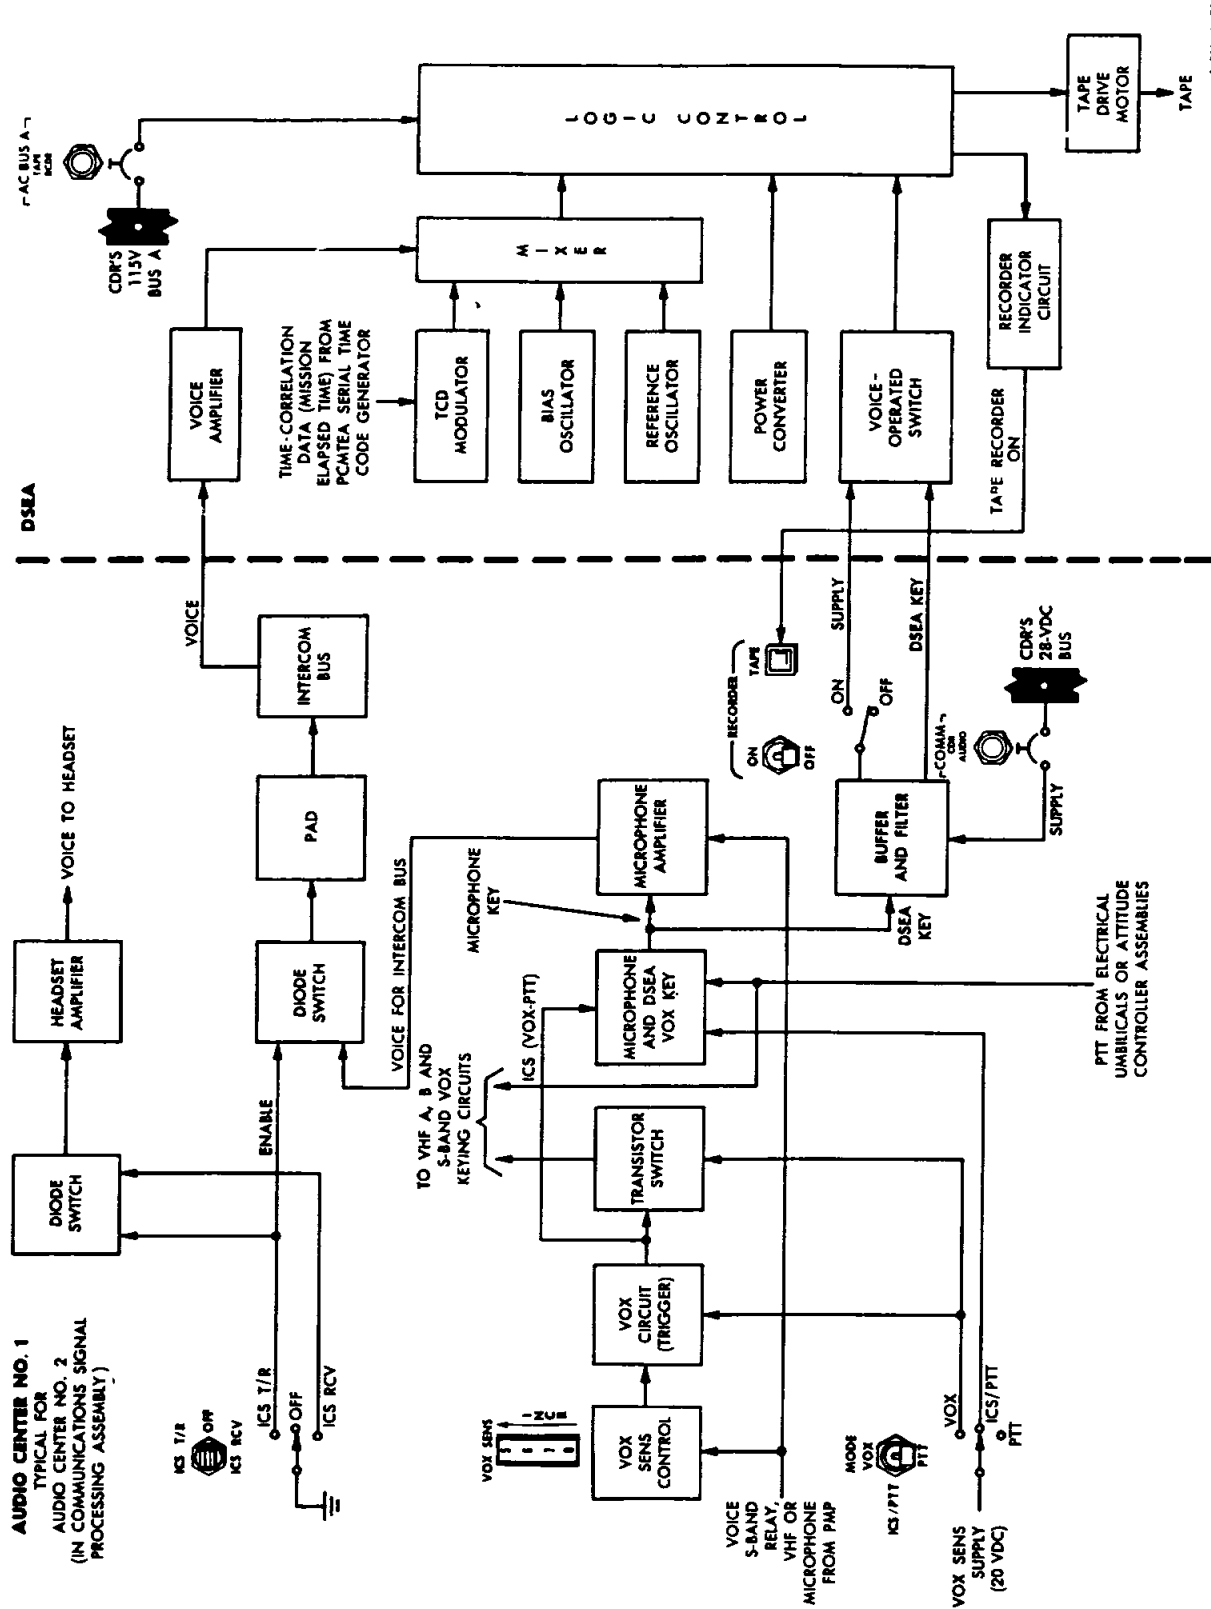

Figure 2.9-16. DSEA - Functional Block Diagram
2.9.4.5 Data Storage Electronics Assembly. (See figure 2.9-16.)